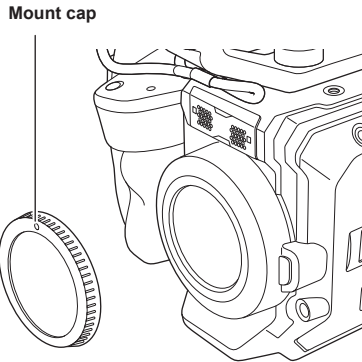

Fig. 1
- 1** Mount the supplied microphone holder adaptor to the microphone mounting section of the camera. (Fig. 1)
- 2 Remove the mount cap. (Fig. 1)**